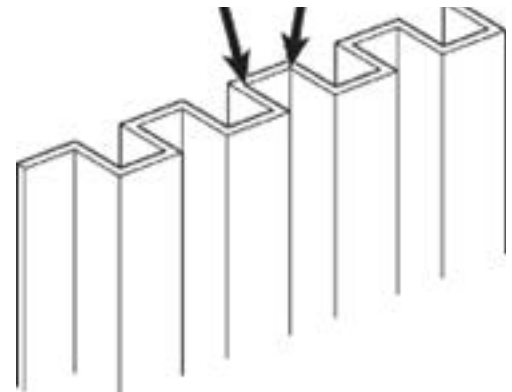

Figure 7. Location to Cut Film
4. Cut the film in the vertical recesses at the two inside corners when the angle is greater 60 degrees. See Figure 7.